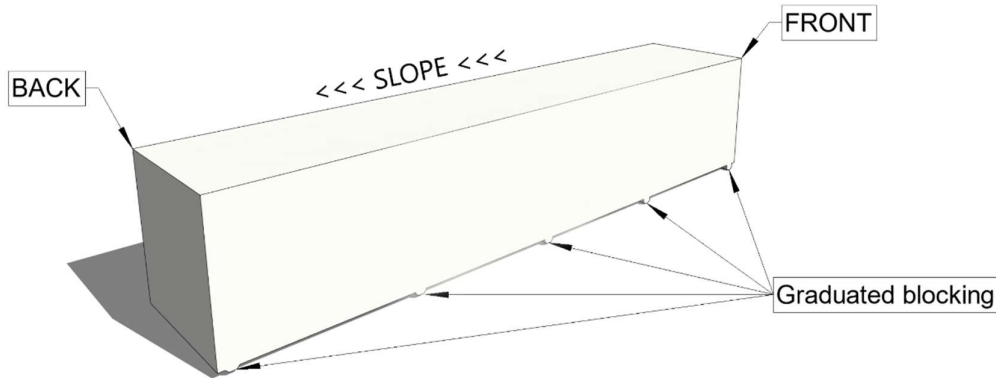

Fig. 5.2
5.2 Elevate one end of panel bundles to provide adequate drainage - use graduated blocking under bundle bearing pads as required (figure 5.2).